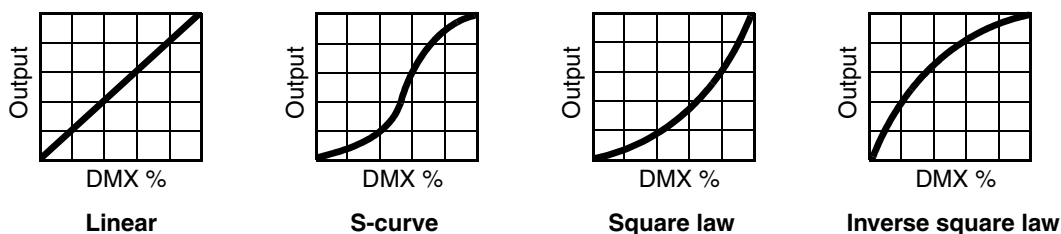

Figure 6: Dimming curve options
- **DIMMER CURVE** provides four dimming options (see Figure 6):